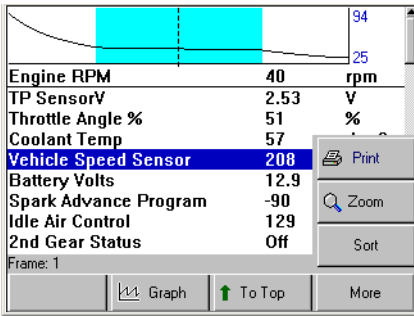

Figure 8.2: Playback Screen
- The list holds up to five (5) recorded Event files. When the list is full, old recordings automatically delete as you make new recordings. To prevent a recording from being automatically deleted, **select the recording** and press the **Save** function key. This places a disk icon to the left of the file name and saves the recording until you delete it.
- 5 From the Events to Playback screen, **select the recorded event** to view and press the **ENTER** key. (The events are identified by the vehicle description, date, and time of the recording.) This displays the recorded event in the Playback screen (Figure 8.2 on page 79).